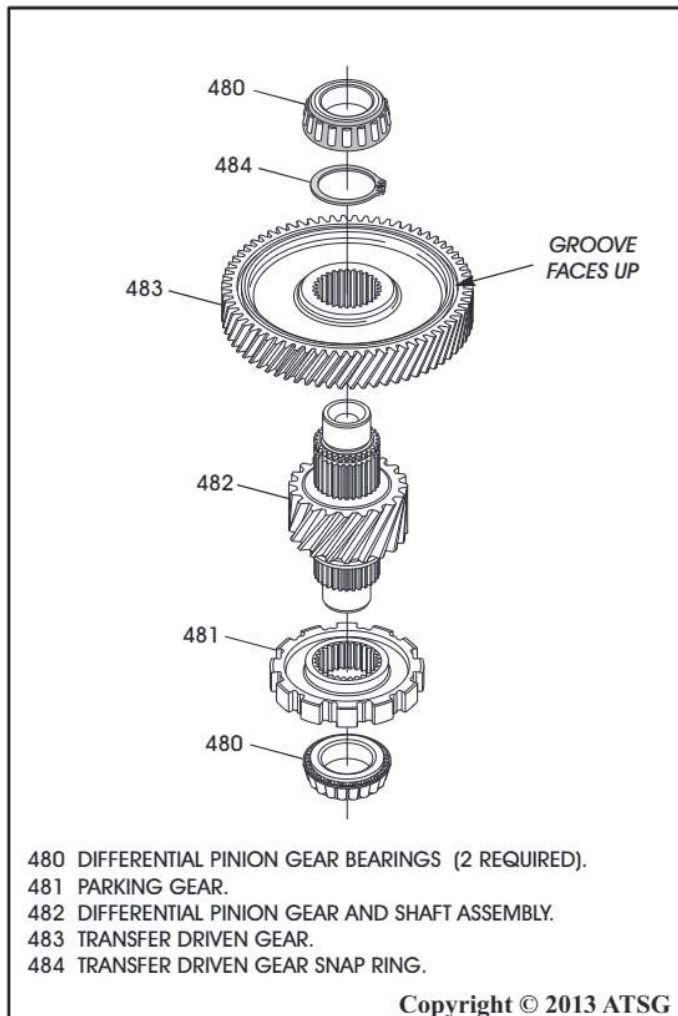

Figure 89
1. Disassemble the differential pinion gear assembly using Figure 89 as a guide.
4. Assemble the differential pinion gear assembly using Figure 89 as a guide.
Note: Notice that transfer driven gear goes on the pinion gear shaft with the groove facing up, as shown in Figure 89.